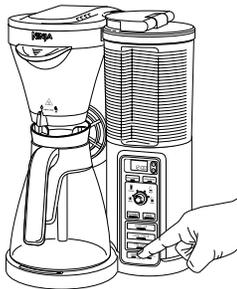

Fig. 21
- 3 Once the water reservoir is filled with your cleaning solution and water mixture (**not exceeding the Max Fill line**), simply press the Clean button to activate the clean cycle. (Fig. 21)